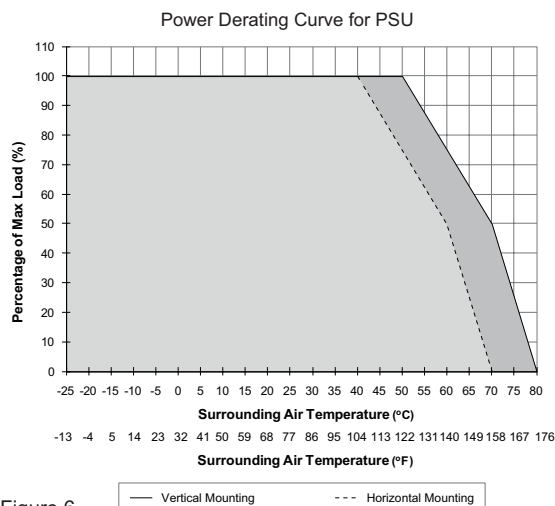

Figure 6
5.4. Thermal behavior (Fig. 6)
Ambient Operating temperature	-25°C to +80°C [-13°F to 176°F] (Refer to Fig. 6)